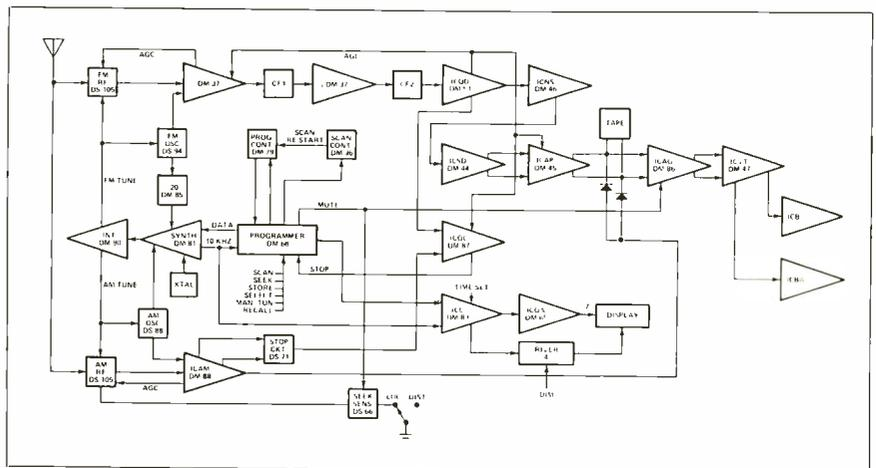

Fig. 1 Block diagram of an all electronic signal seeker car radio by Delco.
Figure 1 shows the block diagram for the Delco all-electronic signal seeker (SS) car radio. The old mechanical SS radio used a PTM, and a traveling rack mechanism to drive the tuning cores forward. This seeking tuner contains no moving parts, and is all-electronic.